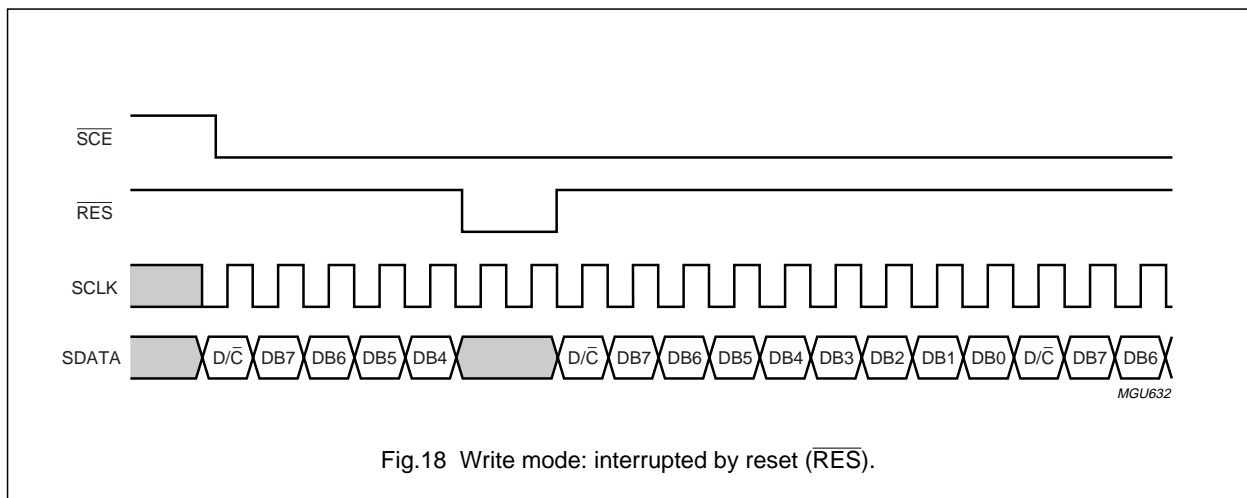

Fig.18 Write mode: interrupted by reset ( $\overline{RES}$ ).
- A reset pulse with  $\overline{RES}$  interrupts the transmission. The data being written into the RAM may be corrupted. The registers are cleared. If  $\overline{SCE}$  is LOW after the rising edge of  $\overline{RES}$ , the serial interface is ready to receive the  $D/\overline{C}$  bit of a command/data byte (see Fig.18).
(1) A transmission byte may be a command byte or a data byte.